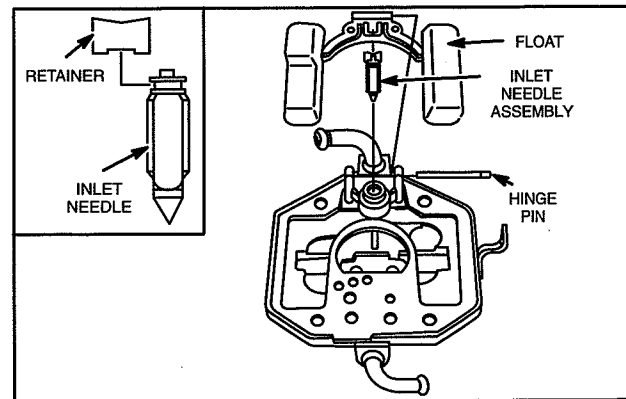

Fig. 114 – Install Float
17. Assemble inlet needle retainer to inlet needle and assemble to float, Fig. 114.